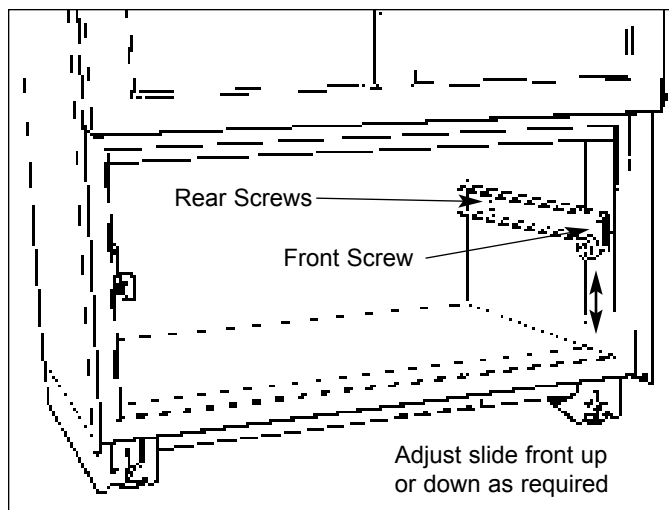

Figure 2-7. Vertical Freezer Drawer Adjustment
- Loosen two screws towards rear of each cabinet drawer slide, and extract screw at slide front. (See Figure 2-7)
- Relocate front screw to desired position in drawer slide insulator grommet (See Figure 2-7).